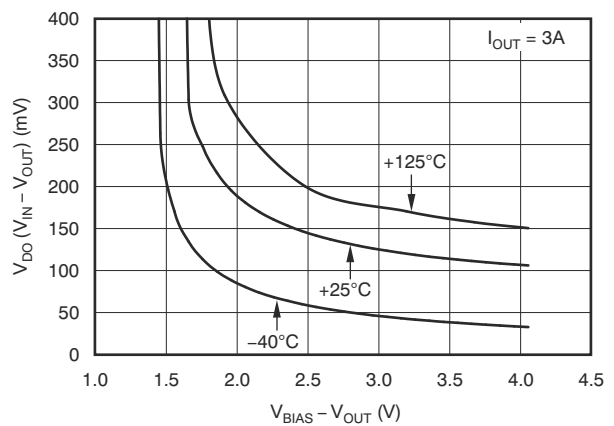

图 6-6. V_{IN} Dropout Voltage vs $V_{BIAS} - V_{OUT}$ and Temperature (T_J)
(1) Adjustable devices tested at 0.8 V; resistor tolerance is not taken into account.
(2) Dropout is defined as the voltage from V_{IN} to V_{OUT} when V_{OUT} is 3% below nominal.
(3) 3.25 V is a test condition of this device and can be adjusted by referring to Figure 6-6.